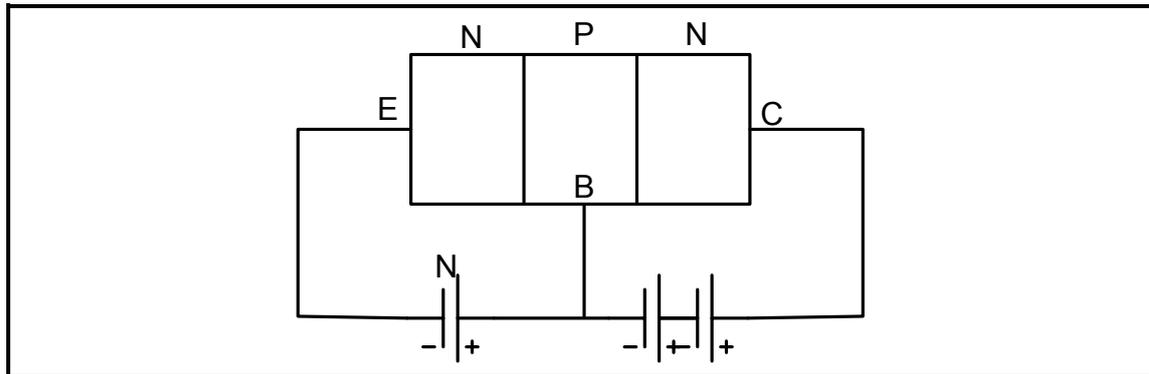

FIGURE 11.1: NPN TRANSISTOR CIRCUIT
11.9 Refer to the NPN-transistor in FIGURE 11.1 below and describe its operation.